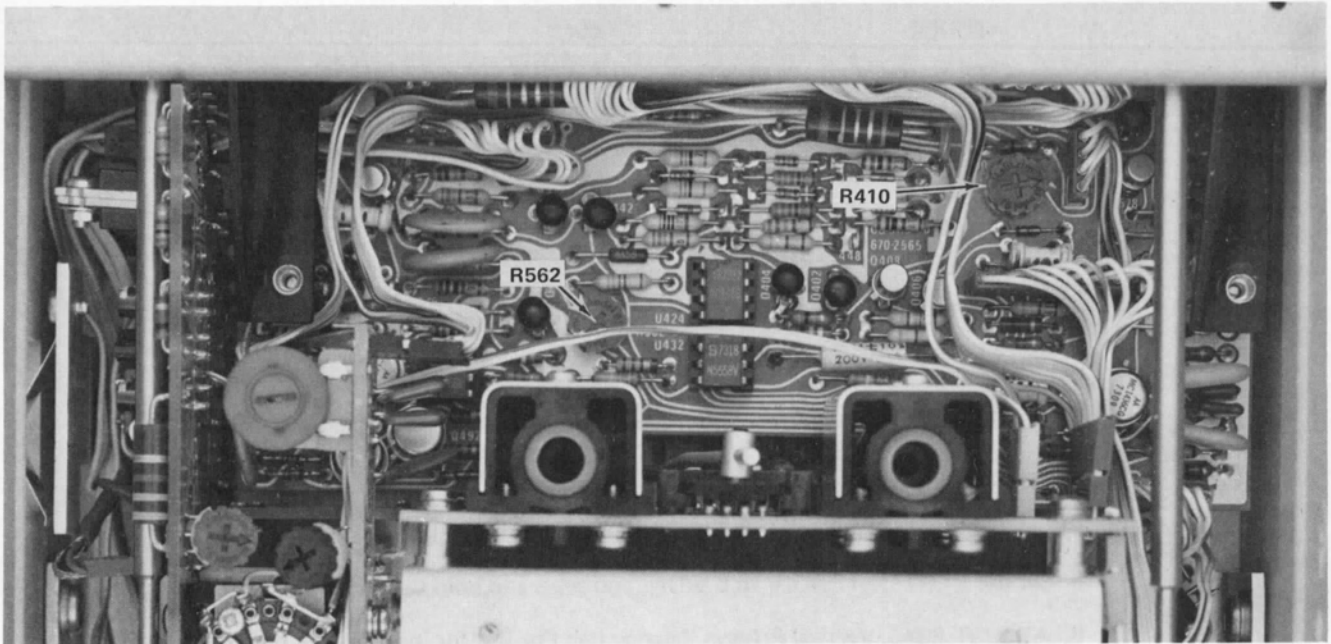

Fig. 5-5. Location of R562 and R410.
e. ADJUST-R562, Supply Cal, for 60.0 volts. See Fig. 5-5 for location.
c. Roughly adjust Sweep Freq Adj. R410, for one cycle per time mark. See Fig. 5-5 for location.